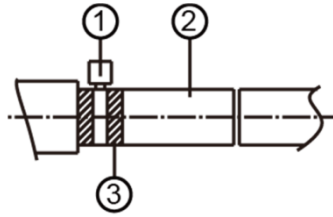

Fig 4.3.2
- (1) Insert the drain hose into the drain hole and tighten it with tapes, as shown in Fig 4.3.2.
- (2) Tighten the pipe clamp, with the distance between screw nut and hose smaller than 4mm